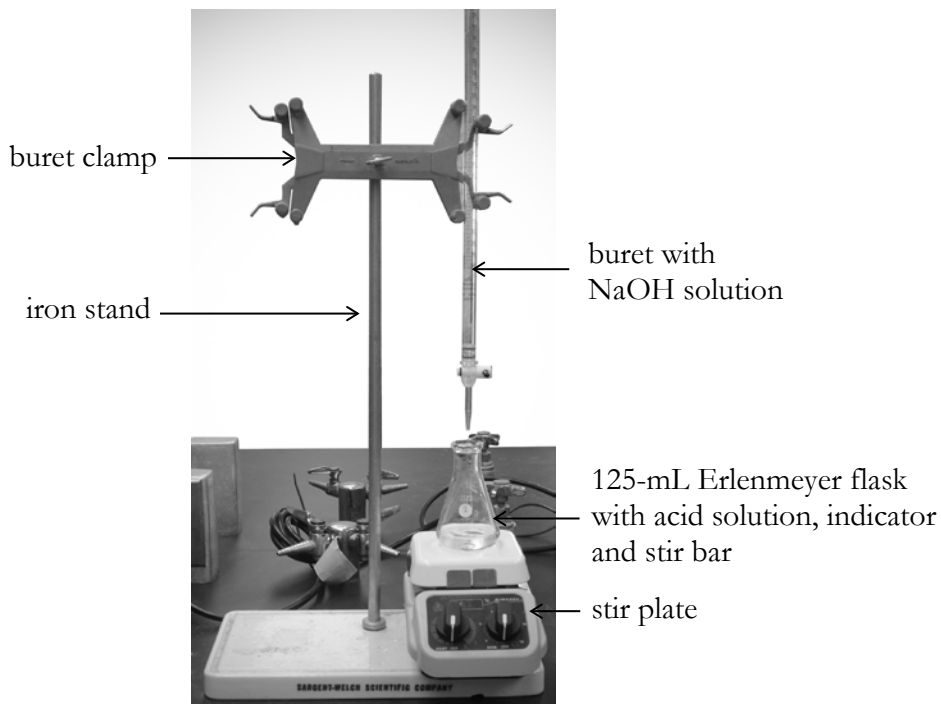

Figure 2. Titration Set-up
- Place the stir plate with the flask containing the KHP solution centered below the buret as shown in Figure 2. Make sure the solution is being stirred at a low speed (avoid splashing of the solution) and the **heat if OFF**. Stirring continues throughout the titration.